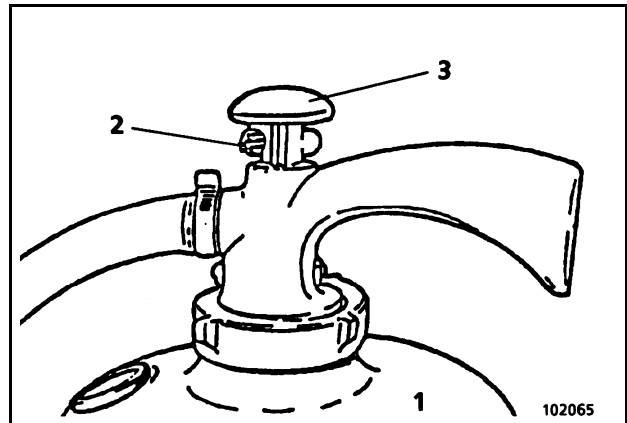

Fig. 2-32:
- Pull out securing pin (2, Fig. 2-32:).
- Strike knob (3) hard, then release again.